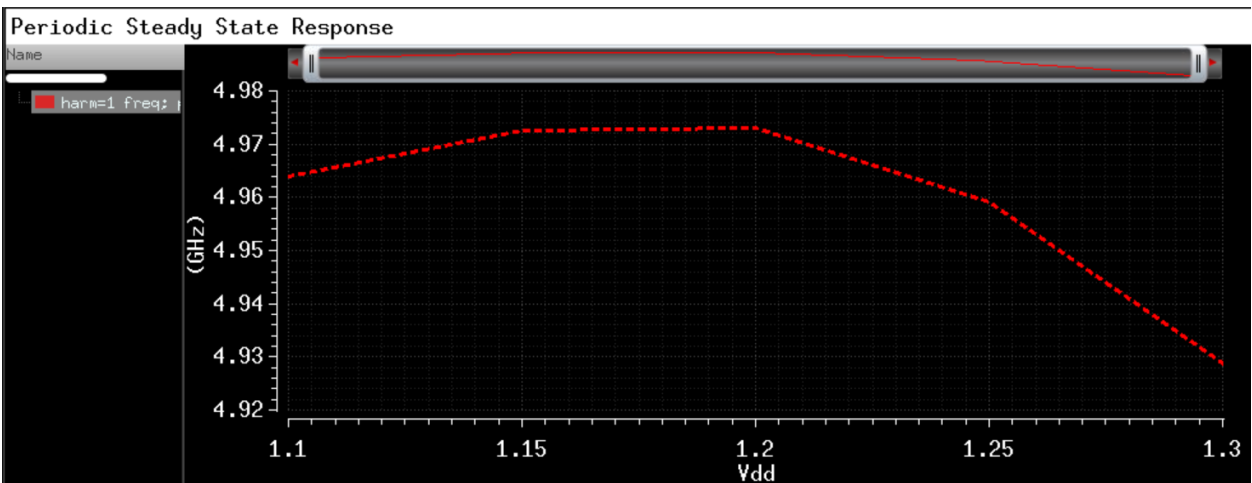

Fig. 9: Frequency pushing due to V_{dd} variations
- 3) To plot the frequency pushing, setup the PSS analysis for sweeping the V_{dd} value between 1.1 and 1.3 volts. At this step of the analysis, v_{cont} is fixed. Figure 9 shows the frequency pushing versus V_{dd} variations. As it is pointed on this figure, the frequency value at $V_{dd}=1.2V$ is 4.97GHz, the same as the result derived from the transient measurement.